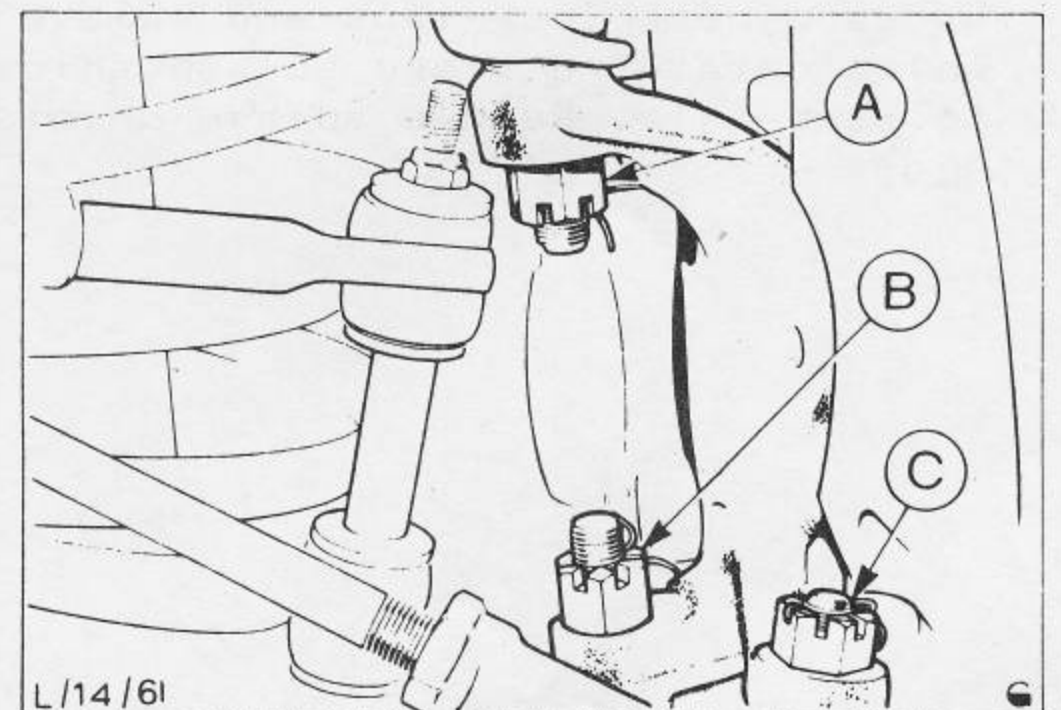

Fig.15 Stub axle securing points.
10. Place stub axle in position, Fig.15 secure upper and lower joints, tightening nuts to 30 - 40 Ft. Lbs, continue tightening until split pin holes are aligned and fit new pins.. Do not exceed 66 Ft. Lbs.